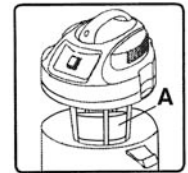

FIGURE 14
This section relates to wet vacuuming operations. This vacuum is fitted with an automatic suction shut-off float cup (A) Fig.14 which floats up when the liquid level increases in the tank, it then stops the suction action when the tank has reached its maximum capacity of liquid. Make sure the float cup is clean at all times.
- 2) Remove the cover/motor assembly and lay it aside, being careful not to damage the filters and empty the tank contents into a suitable waste disposal container by removing the drain cap (B) Fig.14 found on the lower front of the tank.